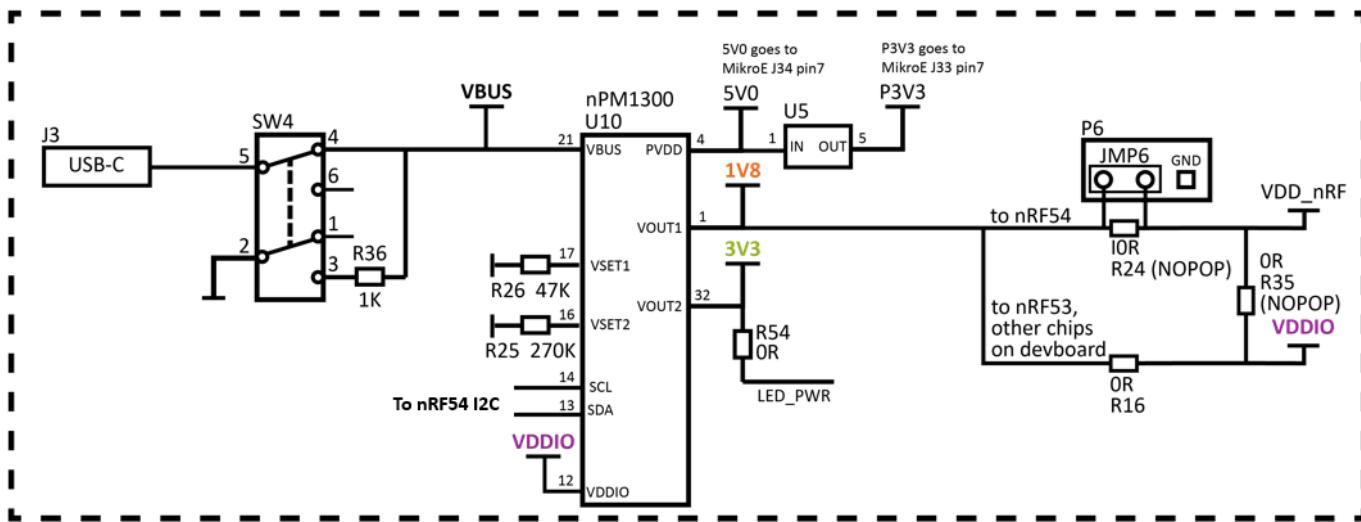

**Figure 1: Correct BL54L15μ development board 453-00223-K1 or 453-00224-K1 jumper and switch settings (image for 453-00223-K1)**
**Important!** To ensure correct out-of-the-box configuration, the **BL54L15μ** development board switch and jumpers must be configured as shown in Figure 1.